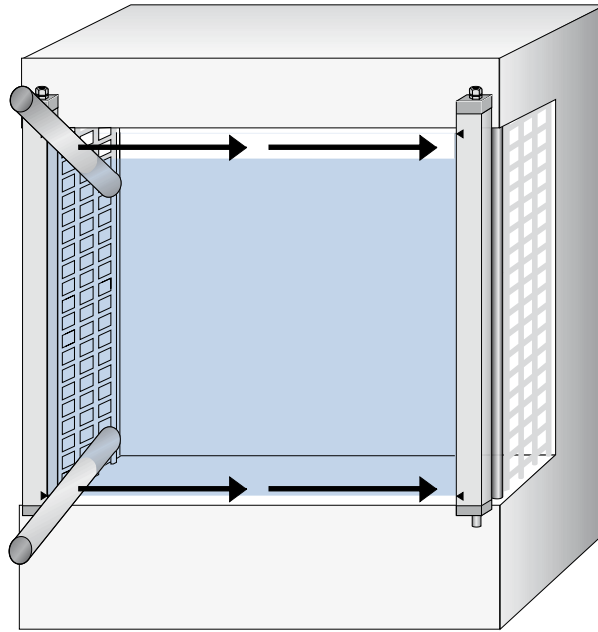

Figure 30: Daily checks of the protective device: Step 2
- ▶ Guide the test rod along the edges of the protective field as indicated by the arrow in Fig. 30. Watch the OSSD LED on the receiver during the check. The OSSD LED on the receiver should continuously light up red. The OSSD LED may not light up green.